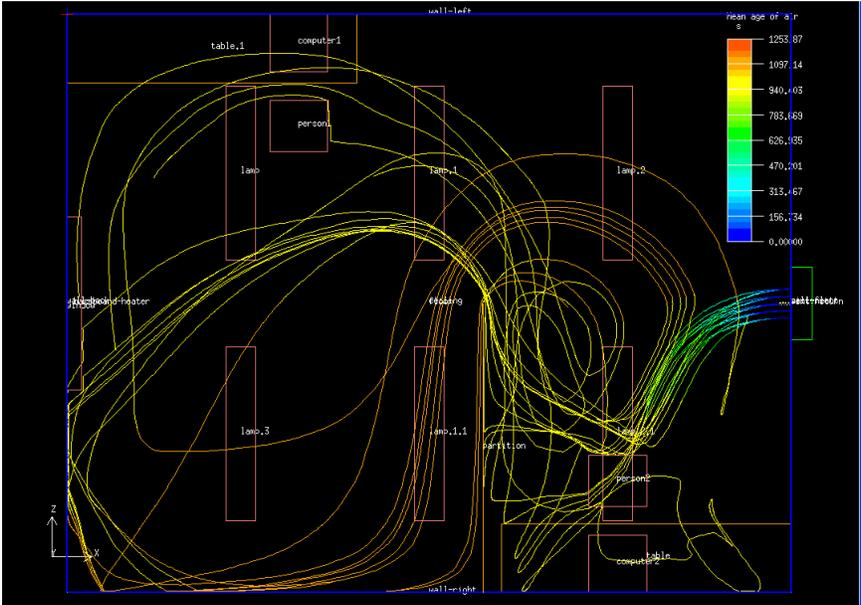

Figure 1.16: Particle Traces of Air Over 20 Minutes
*Figure 1.16 shows the path of air particles entering the office through the opening at the top of the wall opposite the office window.*